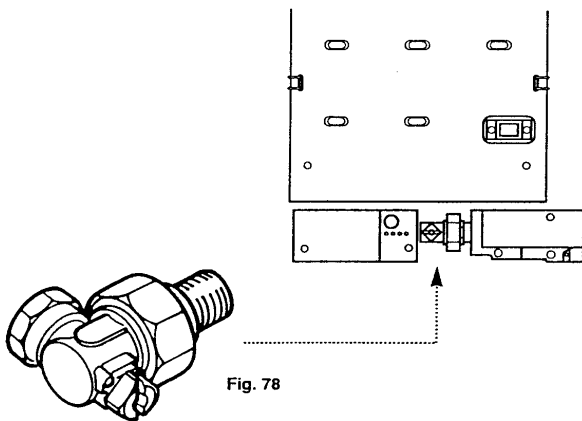

Fig. 78
1. Connection to the gas supply is R 1/2 (1/2 in BSPT internal) located at the rear of the gas cock-(Fig. 78).